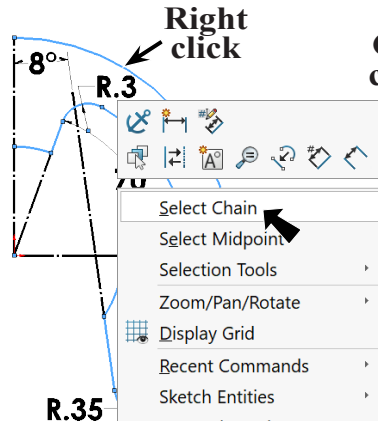

Fig. 16
Step 1. Right click an arc of the sketch and click **Select Chain** from the menu, Fig. 16.